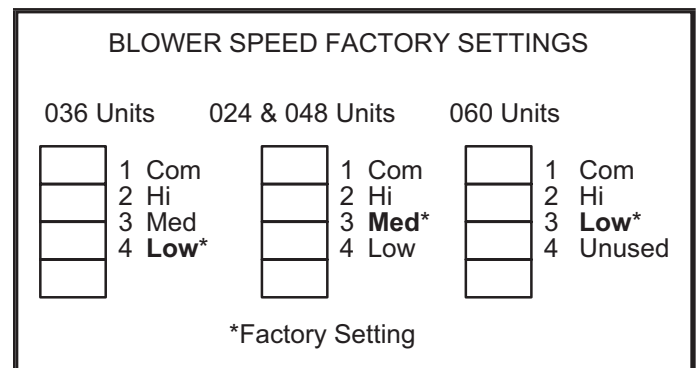

FIGURE 19
- 3 - Use FIGURE 19 to determine the factory set blower speed.